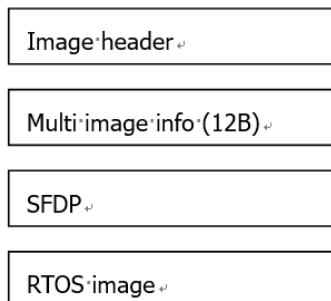

Figure 7: DA16200 Image Structure
- The '.img' of DA16200 has a structure as shown in Figure 7.